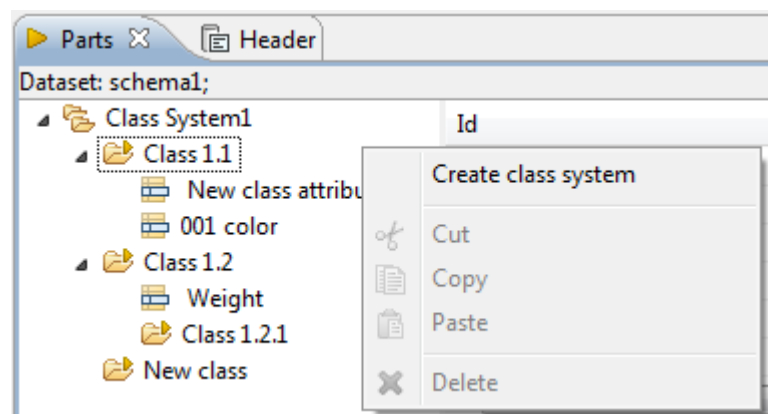

Figure 1. Context sensitive menu, Create class system menu item
- The context sensitive menu appears (see Figure 1).